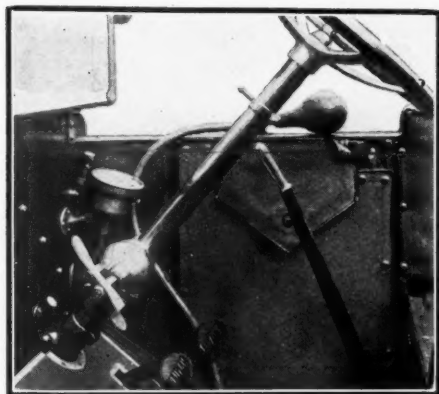
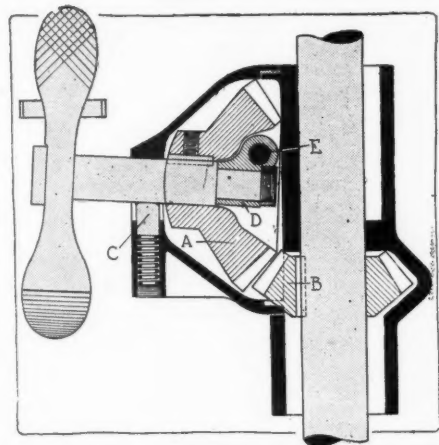

Fig. 2—Auxiliary pedal steering device installed on a car
Fig. 3—Vertical section through auxiliary pedal steering mechanism
**Auxiliary Pedal Steering Device**—Steering by means of the foot is made possible by a device, Fig. 2, invented by B. T. Steiner and H. B. White of the Gilliam Mfg. Co., Canton O. It is intended to supplement the steering wheel and consists of a pedal and bevel gear pair that acts on the steering gear. By rocking the pedal with the foot the car can be controlled just as easily as with the hands. Fig. 3 shows a vertical section through the device. The pedal is connected to a bevel gear A which can be thrown into mesh with the gear B. The latter gear is keyed to the rod that runs through the steering post. Thus when the gears are in mesh the motion of the pedal is transmitted to the steering mechanism, the same as when the wheel is used,